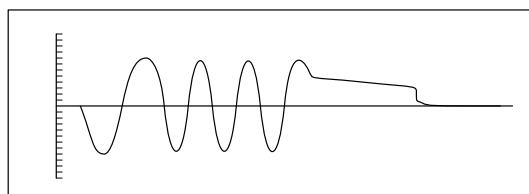

Figure 6. MB86961(A) TPO Output Waveform
The MB86961(A) receives NRZ data from the controller at the TXD input (see MB86961(A) block diagram), and passes it through a Manchester encoder. The encoded data is then transferred to either the AUI cable (the DO circuit) or the twisted-pair network (the TPO circuit). The advanced integrated pulse shaping and filtering network produces the output signal on TPON and TPOP, shown in Figure 6. The TPO output is pre-distorted and prefiltered to meet the 10BASE-T jitter template. No external filters are required. During idle periods, the MB86961(A) transmits link integrity test pulses on the TPO circuit if LI is enabled and integrated PLS/MAU mode is selected. The MB86961(A) can be programmed for either shielded TP (150 Ω) or unshielded TP (100 Ω) through the UTP pin.